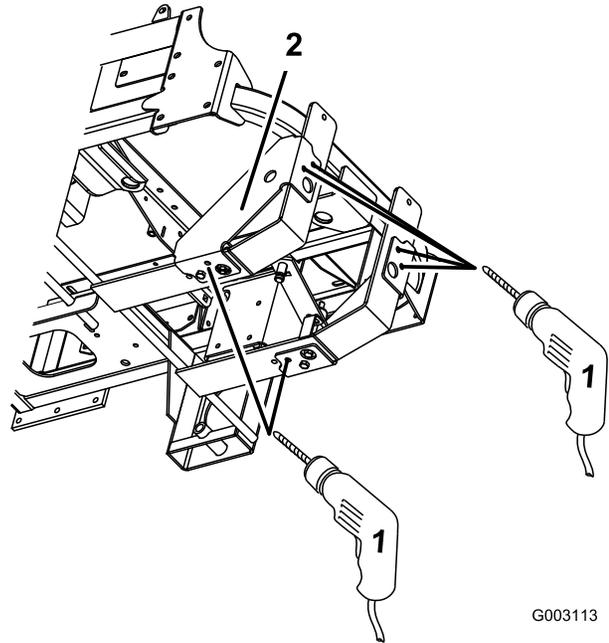

Figure 3
6. Mark and center punch the locations for the holes in the gussets (Figure 3).
7. Remove the gussets and drill 13/32 inch diameter holes at the marked locations (Figure 3).